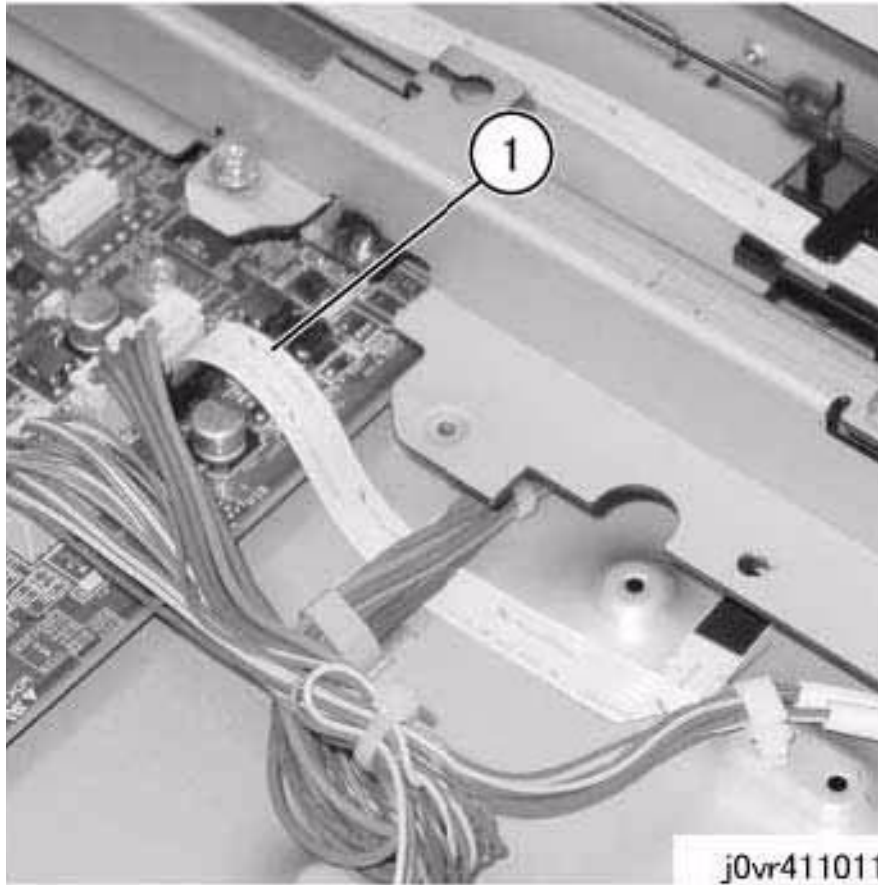

Figure 3 Disconnecting the connector (j0st41125)
5. Disconnect the connector of the Lamp Wire Harness. (Figure 3)